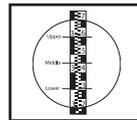

Fig.7
- Read the staff where it is intersected by the middle hair. With metric staffs it is usual to estimate to 1mm. The height reading in fig.7 is 3.456m
- For example, in fig.7 these readings are at 3.601m and 3.309m, therefore, the distance from the instrument to the staff is: $(3.601\text{m} - 3.309\text{m}) \times 100 = 29.2\text{m}$ Angle measurement